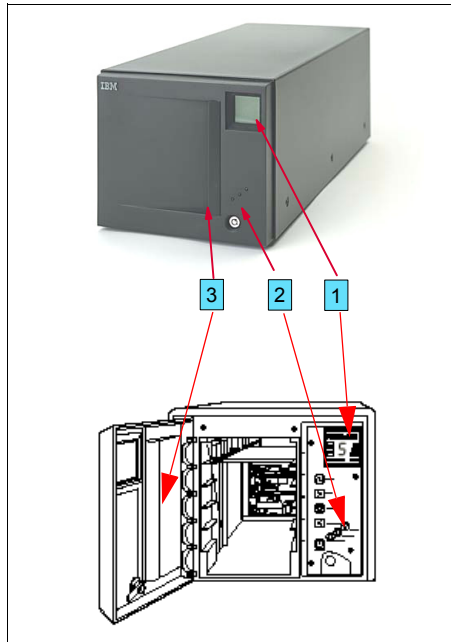

Figure 15-3 IBM 3581 front view
- ▶ Unless you choose another operation, the IBM 3581 times out 30 seconds after each operation, and LdR REAdY appears in the message display (label 1 in Figure 15-3 on page 427).
The IBM 3581 has three status lights on the Operator Panel (label 2 in Figure 15-3 on page 427):
The LCD message display (label 1 in Figure 15-3) provides information about the status of the IBM 3581 and any error conditions. When in an idle (non-operating) state, the autoloader message panel displays LdR REAdY. In addition, the following characters (shown in Figure 15-4 on page 428) can appear on the left side of the display:
The IBM 3581 internal tape drive determines when the head needs to be cleaned and alerts you by displaying **CT** on the message display (label 1 in Figure 15-3 on page 427). This is the *only* occasion when a cleaning cartridge needs to be used. The IBM 3581 supports three methods of cleaning the drive: